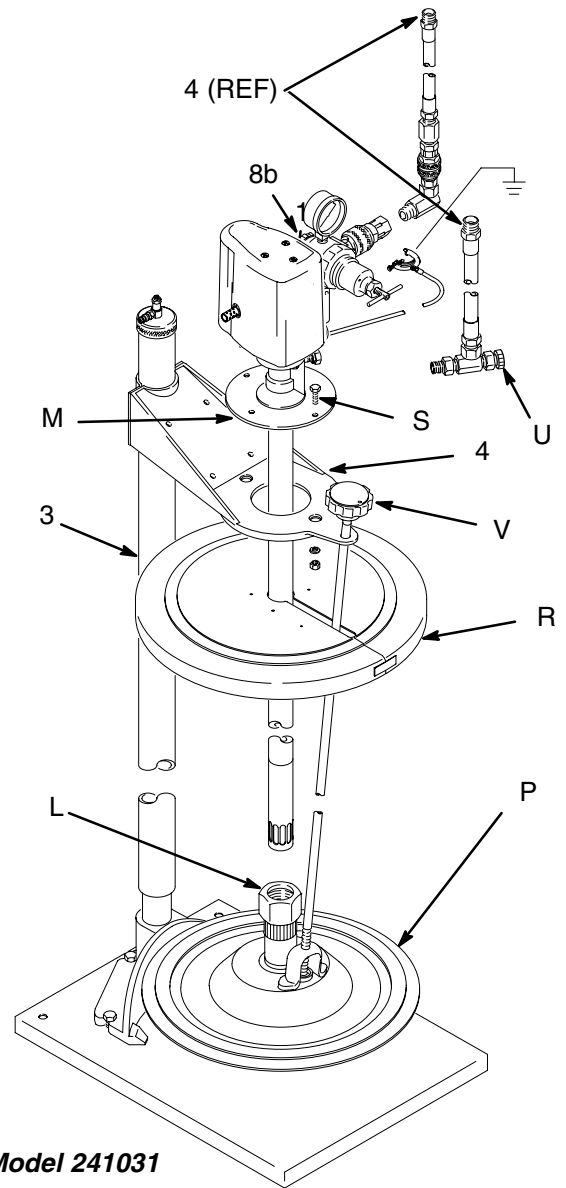

Fig. 10
1. Assemble the elevator (3) and support (4) as explained in the separate manuals 306522 and 306523. See also Fig. 10 and the parts drawing on page 22.
2. Remove the pump mounting plate (M) with a snap-ring pliers (see manual 309224). Screw the fluid fitting (U) into the pump fluid outlet. Orient the fitting so it and the fluid hose will not interfere with the mounting plate (M), and reinstall the plate.
3. Insert the pump (1) through the support (4) and the cover (R). Attach the mounting plate (M) to the support, using the screws (S) and nuts supplied.
4. Install the inductor plate (P) on the pump intake and secure with the nut (L).
7. Place an opened 120 lb (55 kg) drum of grease on the base and center it under the inductor plate (P). See page 8, and prepare the surface of the grease.
8. Lower the elevator until the inductor plate just begins to enter the drum. Check that it is centered; reposition the drum if necessary. Open the vent handle (V) and leave open until grease appears at the opening, then close it.